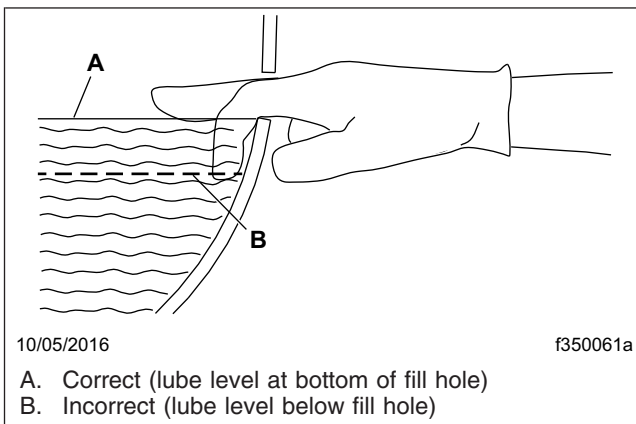

Fig. 2, Axle Lubricant Level Inspection
- 5.1 Fill the axle through the oil fill hole. Lubricant should be level with the bottom of the oil fill hole. To check fluid level, see **Fig. 2**.